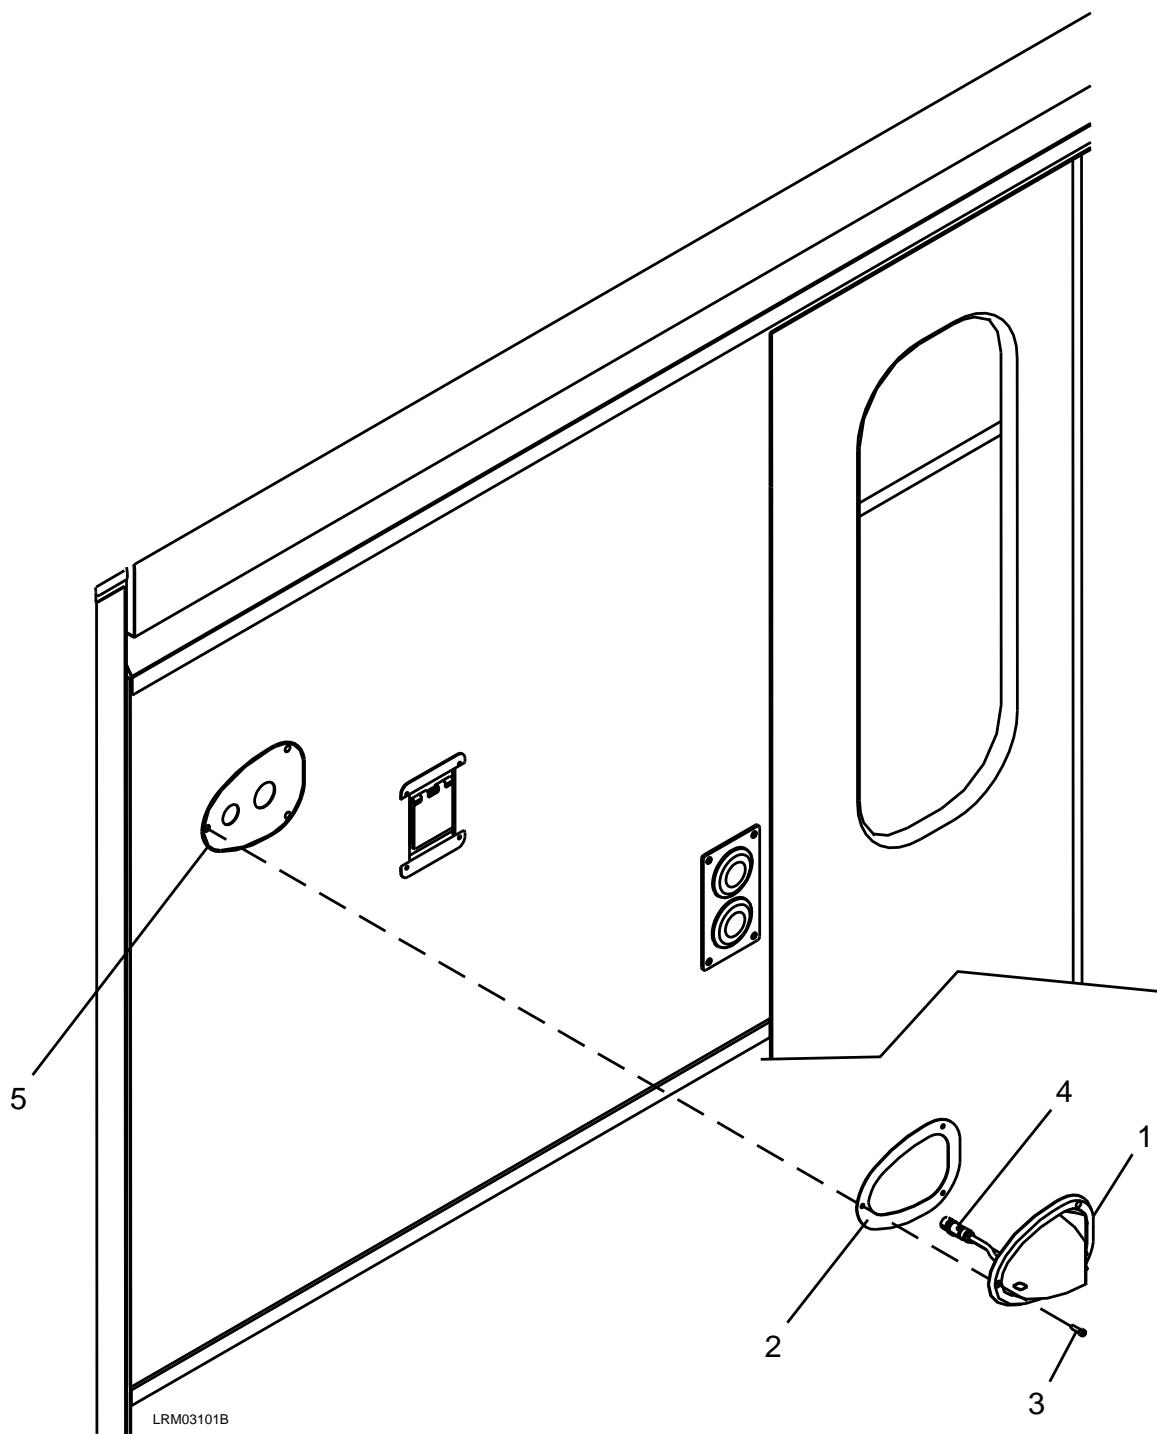

Figure 7-78: Rear View Camera
3. Remove the three M6 x 20 screws (3). See Figure 7-78.
4. Carefully remove the Rear View Camera (1) and gasket (2) from the car body and disconnect the electrical connector (4) from the Rear View Camera (1).